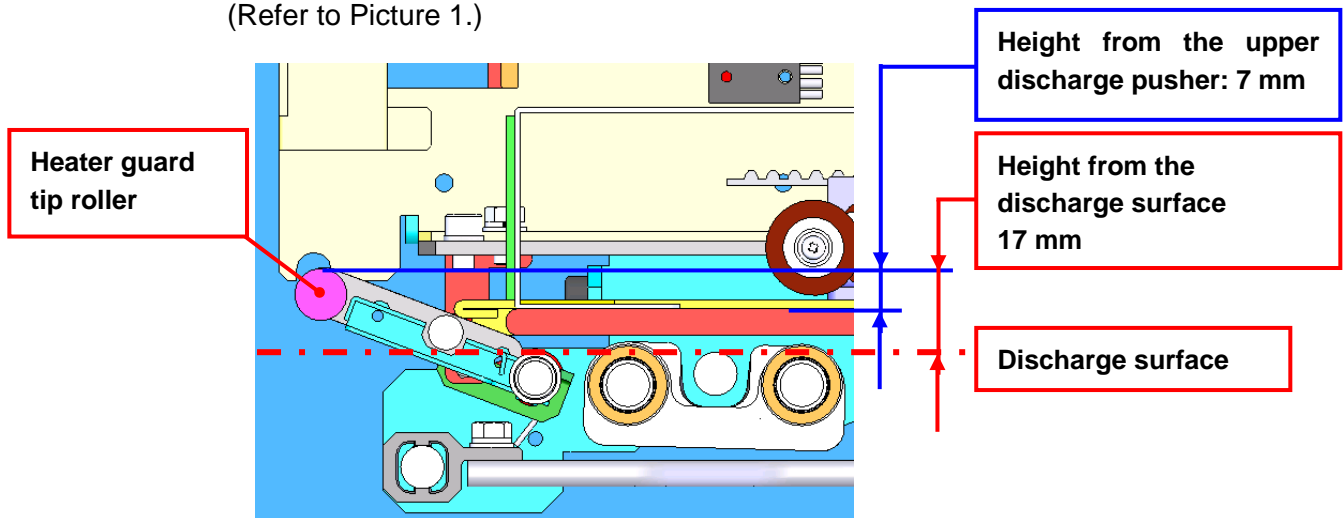

Figure 1
- ① Manually pull the discharge pusher until it becomes the condition as shown in Figure 1.
- ② With the condition shown in Figure 1, perform solenoid adjustment satisfying the following conditions.
- Turn ON/OFF the emergency stop switch, and the heater guard operates with the condition as shown in Figure 1.
- With the emergency stop switch OFF, the heater guard must not be floated with the condition shown in Figure 1.